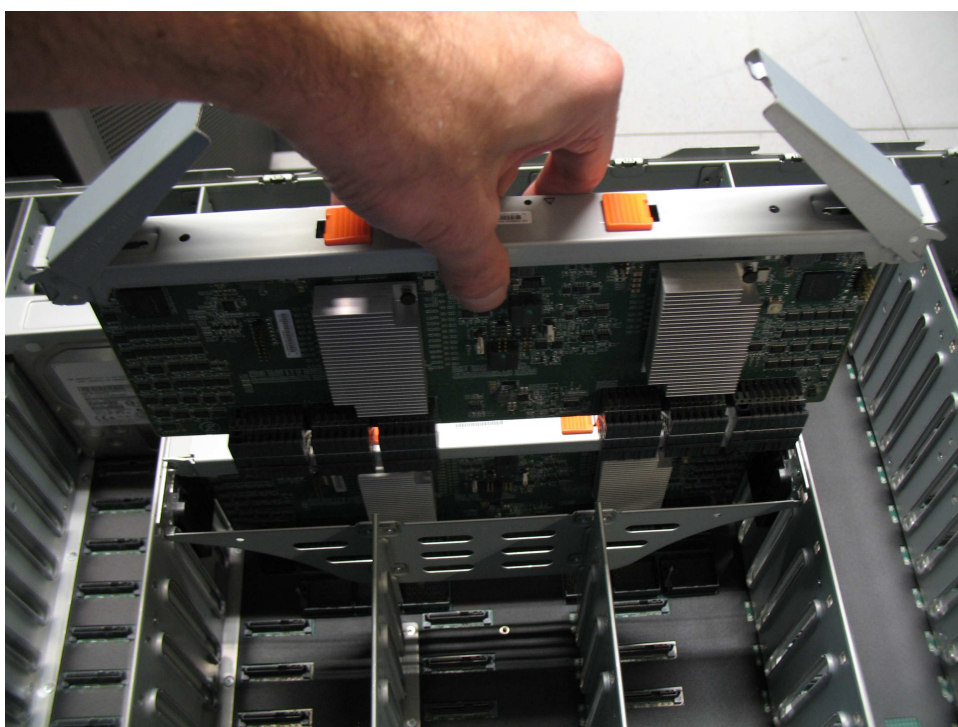

Figure 85. Remove the secondary expander module
4. Carefully lift the secondary expander module out of the enclosure, as shown in Figure 85.